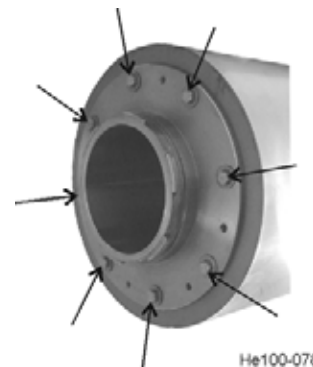

Figure 33 - Removal of Tube to Jacket Bolts
5. Remove the eight (8) 3/8-inch bolts that hold removable tube to jacket. See Figure 33.